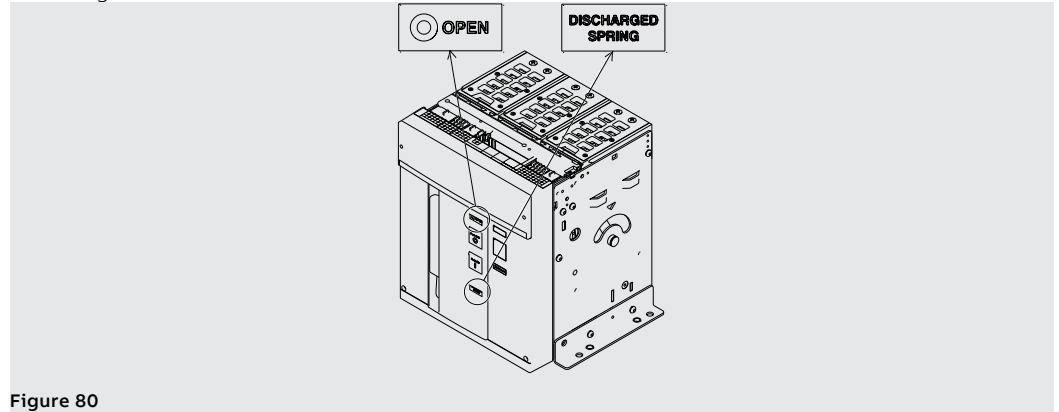

Figure 80
7. Check that the circuit-breaker is open (open / closed indicator "O - OPEN"), and check that the springs are discharged (spring signalling device "white - DISCHARGED SPRING") as indicated in Figure 80.